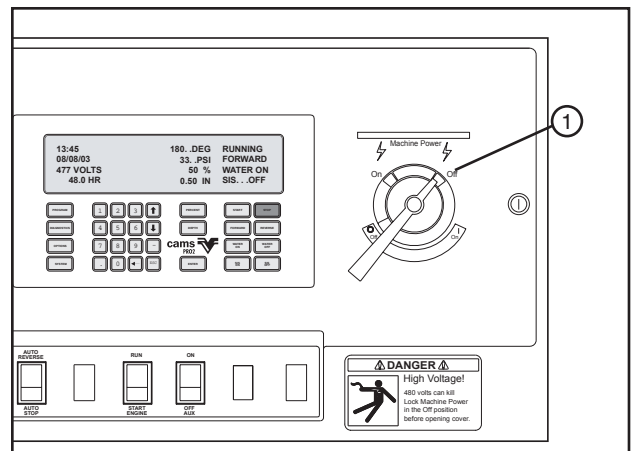

Figure 11-2 1. Main Power Disconnect
3. SHUT OFF the control panel main power disconnect and open the control panel inner door. See figure 11-2.